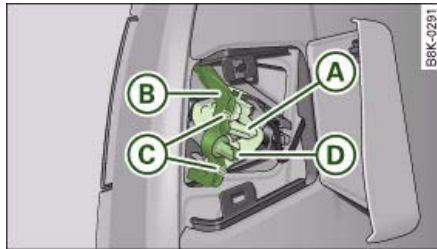

Fig. 281 The retaining clip for the bulb carrier has a guide pin
- Insert the bulb carrier into the rear light. Make sure you hear the retaining tab ⇒ fig. 281 (A) click into place.
- Position the retaining clip (B) so that the guide pins (C) are located in the recess on the retaining clip, and tighten the nut (D).